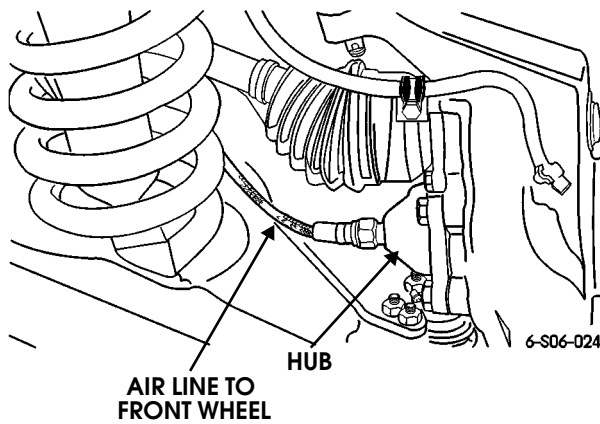

Figure 6-73: Line Connection to Hub
1. Disconnect line at front hub (Figure 6-73).